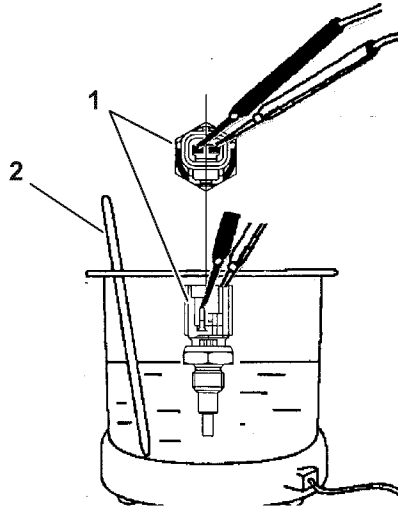

Figure 8-10
1. Inspect the water temperature sensor to make sure that it is properly operating. As shown in the following figure, connect an electric resistor to the coupler of the water temperature sensor (Figure 8-10, (1)).
2. Dip the water temperature sensor and an accurate thermometer (Figure 8-10, (2)) into the cooling water.